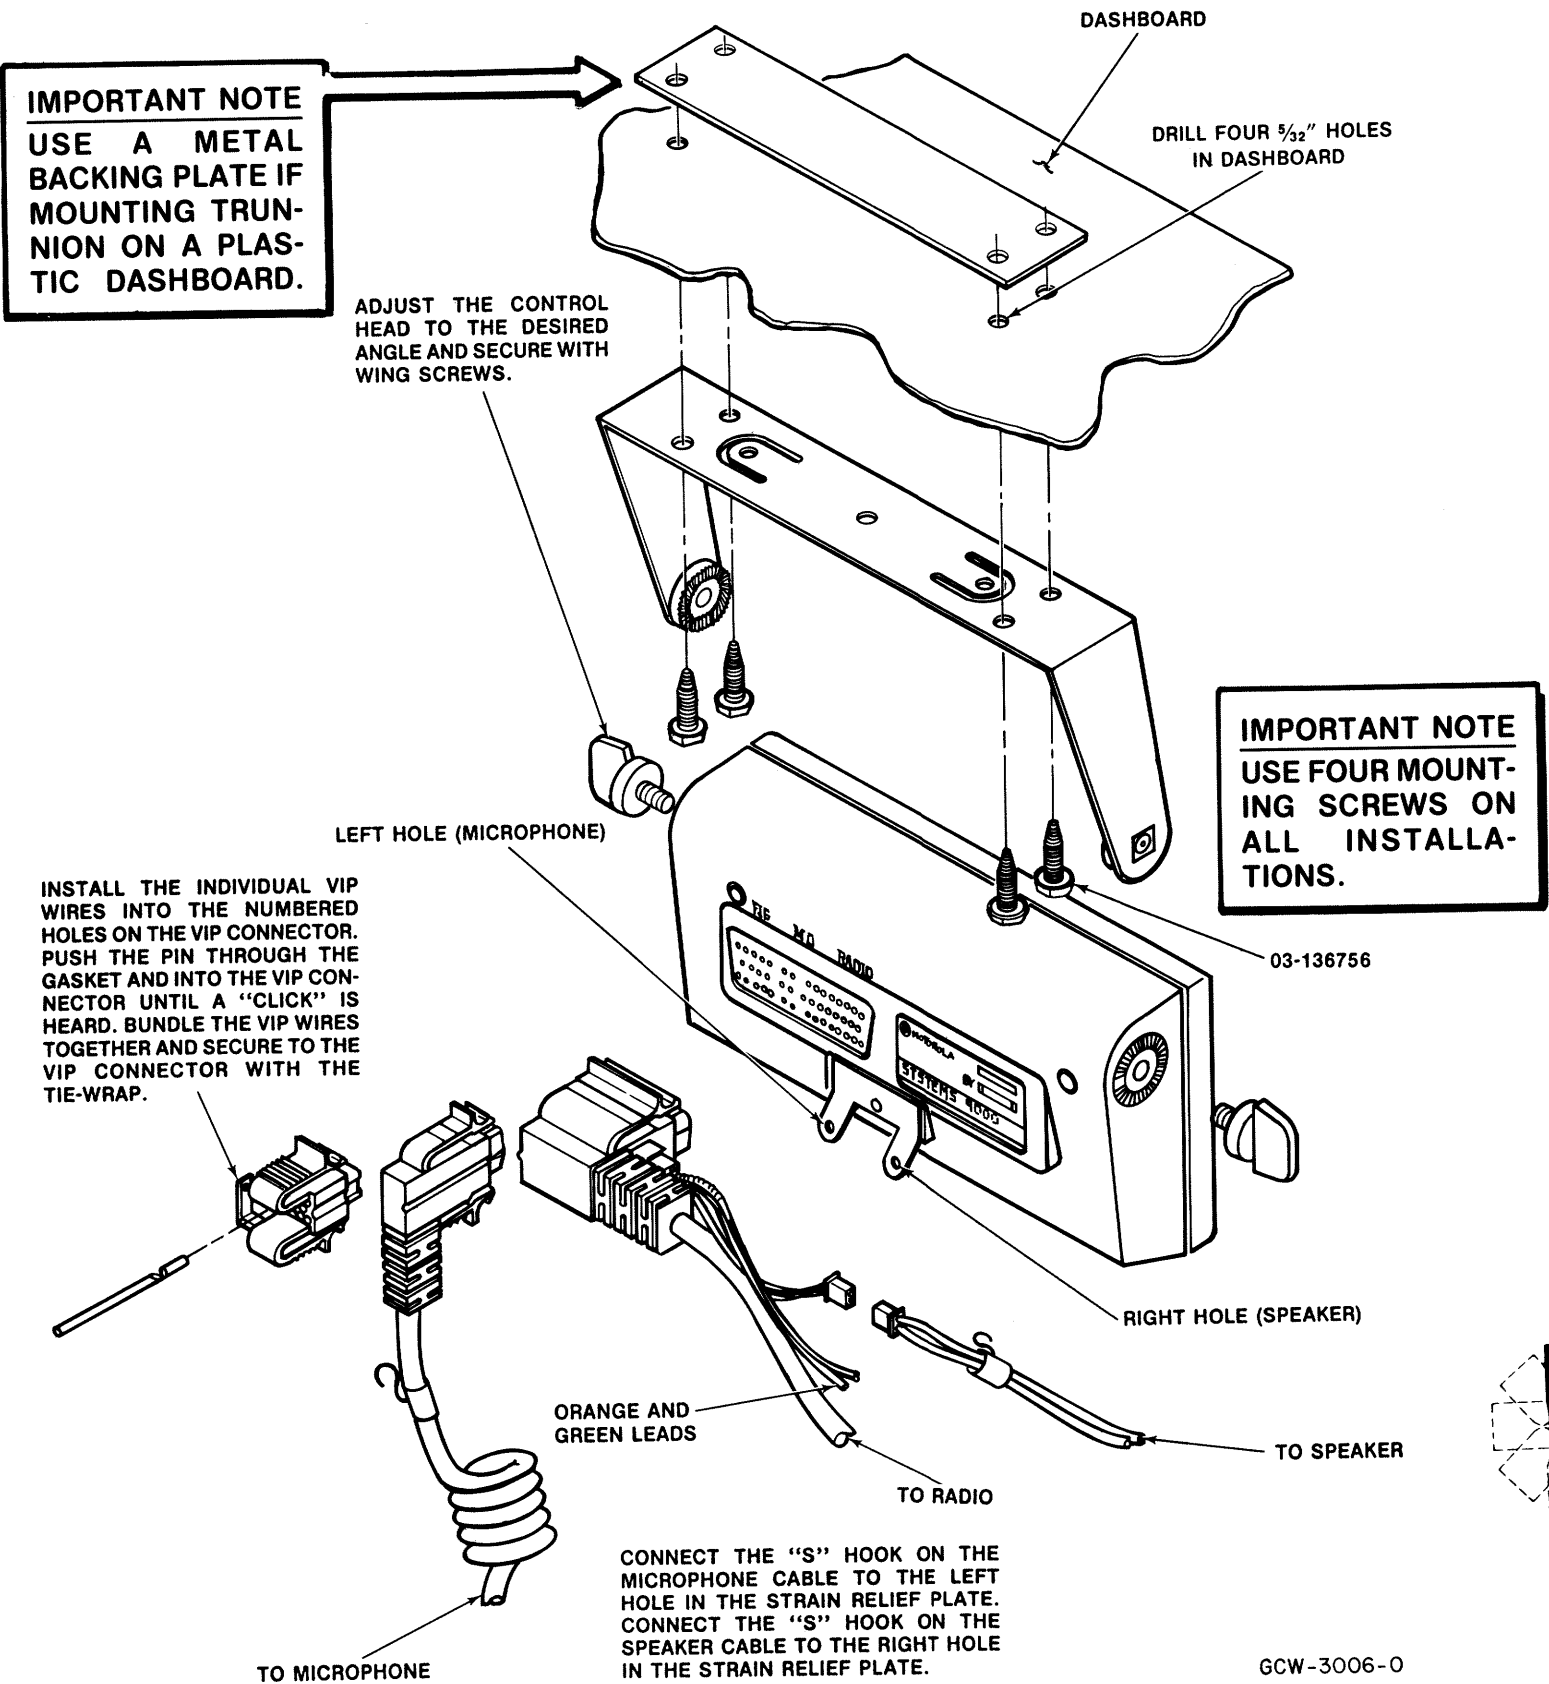

Figure 5. Control Head Installation Exploded View
(1) Mark the mounting location (see Figure 5) using the selected trunnion bracket as a template; drill four  $\frac{5}{32}$ " holes. If mounting into a plastic surface, use a metal backing plate.
(2) Attach the trunnion bracket using *all* four #10-16  $\times$   $\frac{5}{8}$ " self-tapping screws supplied in the mounting kit.
(3) Plug in the radio cable connector and microphone cable connector in the proper location on the back of the control unit (see Figure 5). A "click" sounds when the connector snaps into place. Now connect the microphone cable "S" hook into the hole in the cable strain relief bracket on the back of the control unit.
(4) Plug in the Vehicle Interface Port (VIP) connector (see Figure 5) into the remaining location on the back of the control unit.
(5) Install the control unit to the trunnion bracket using the two wing screws. Rotate the control unit to the desired vertical position and tighten the wing screws.
The function of these VIP outputs can be defined by field programming the control unit. Typical applications for VIP outputs are external horn/lights alarm and horn ring transfer relay control. For further information on VIP outputs, see the control unit programming manual. For information on installing relay connectors in the VIP connector, see Figure 5.
The function of the VIP inputs can be defined by field programming the control unit. Typical applications for the VIP inputs are for a foot switch of a horn ring switch. For further information on VIP inputs, see the control unit programming manual. For information on installing switch connectors into the VIP connector (see Figure 5).